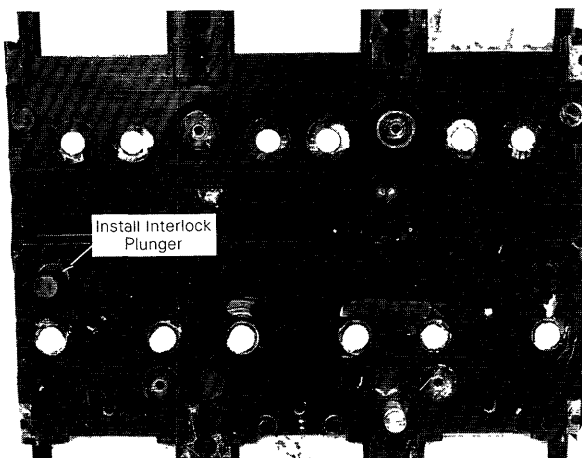

Figure 4. Interlock plunger installed in the breaker..
3. Install the interlock plunger in the hole made in step 2, as illustrated in Figure 4.